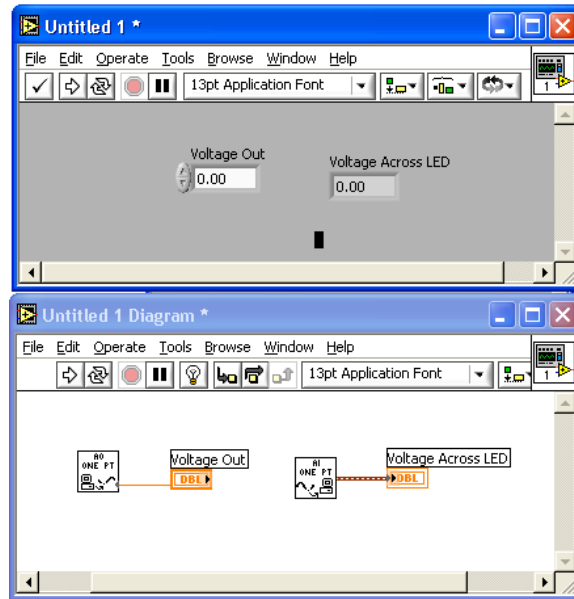

Figure 2.3.30. LabVIEW setup for voltage in and out
2. On the **Diagram Panel** go through the same steps as before, except this time pull up the **AO Update Channel.vi** by right clicking the background to pop up the **Functions** menu and selecting **Data Acquisition** -> **Analog Output** -> **AO Update Channel.vi**. This is a subroutine that sends a voltage out to the breakout box. Wire the **value** terminal of the vi to the **Voltage Out** control. The **Front** and **Diagram Panels** should look like Figure 2.3.30.